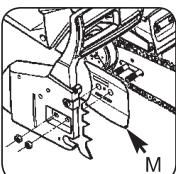

Fig. 3K
10. Locate the outer guide bar plate (M) in the user's kit and install it so the bent edges (top and bottom) are directed away from the chain (Fig. 3K).